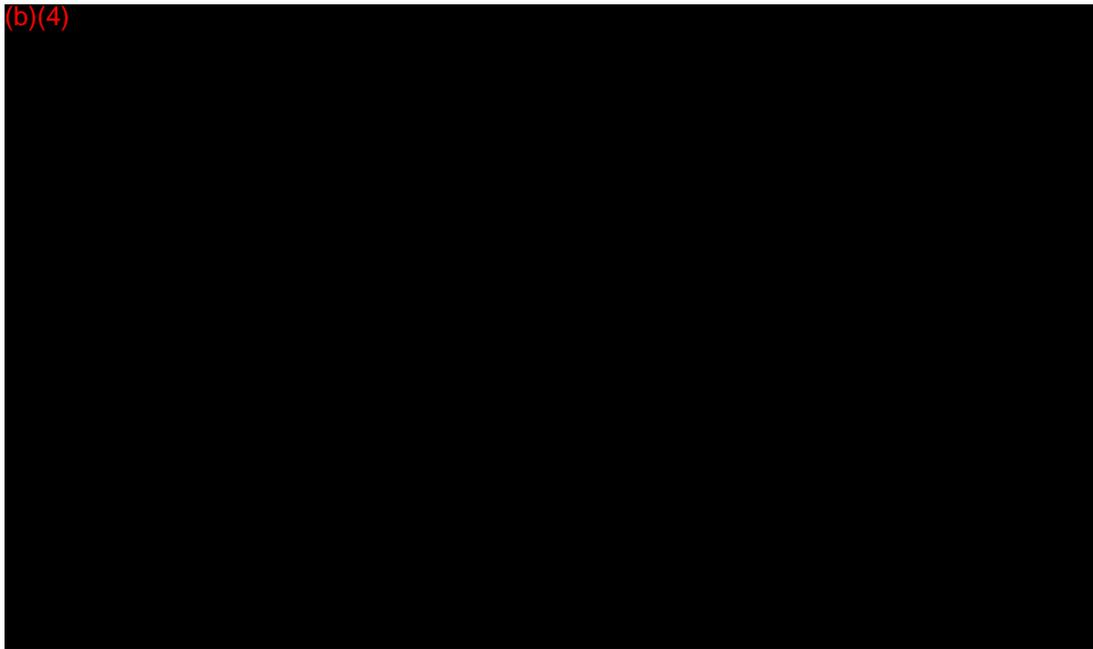

Figure 6 - (b)(4)
There were (b) subjects who underwent CT of the body. The (b) for the subjects imaged with body CT protocols, and the radiation dose associated with those protocols, are shown in *Figure 6*. DLP is plotted, which takes into account (b)(4) a subject received.